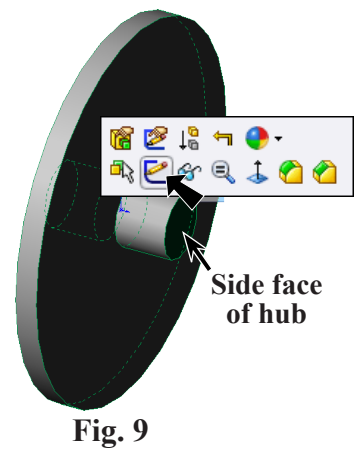
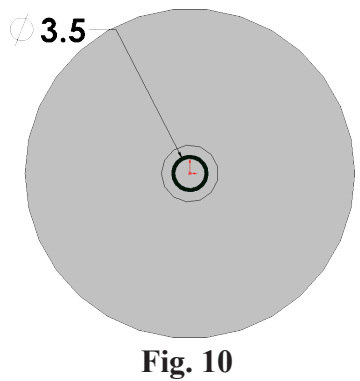

Fig. 9
Fig. 10
Step 4. Click Zoom to Fit  (F) on the View toolbar.
Step 1. Click the **side face of hub** and click **Sketch**  on the Content menu, **Fig. 9**.
Step 3. Click **Circle**  (S) on the Sketch toolbar.
Step 4. Draw a circle for the hole starting at the Origin , **Fig. 10**.
Step 5. Click **Smart Dimension**  (S) on the Sketch toolbar.
Step 6. Dimension the axle hole **3.5** as shown in **Fig. 10**.